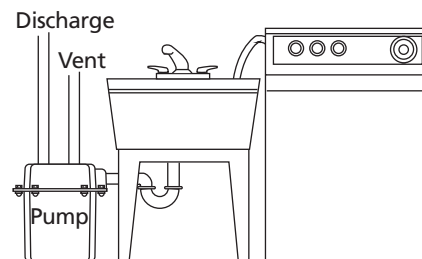

Figure 2 – Typical installation for laundry sinks and washing machines.
- Install the inlet pipe in the opening as shown. Use RTV sealant or PTFE pipe thread sealant tape to seal threads. See Figures 2, 3 and 4 for typical installation arrangements.